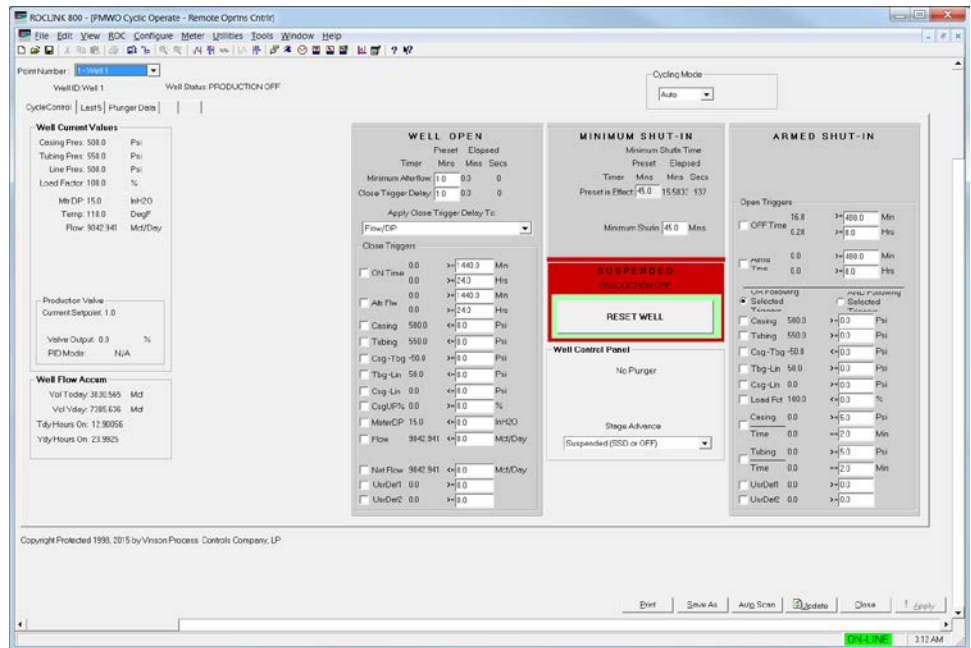

Figure 88. Intermittent Simulation – PMWO Cyclic Operate
3. If necessary, update the **Aft Flw** (after flow), **Armd Tme** (armed time), and **Preset In Effect** fields, as shown in *Figure 88*. For the simulation, select a low value for each field, for instance, 1 minute. Click **Apply** to save the changes you make.